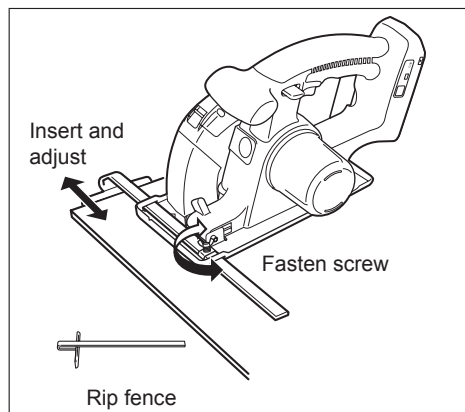

Fig. 10
- Insert rip fence and adjust cutting width. (See Fig. 10)